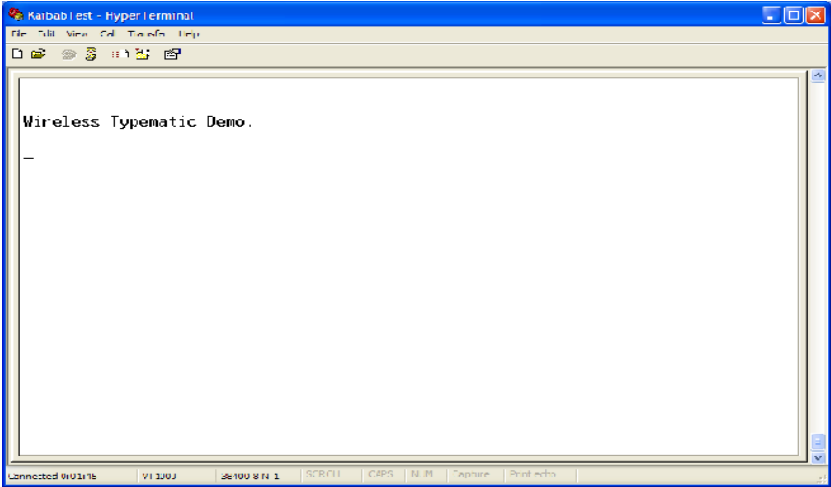

Figure 2-6. Wireless UART Welcome Message
7. Start the serial communication software and send any characters using the keyboard. The other board answers with the “Wireless Typematic Demo.” message as shown in Figure 2-6.